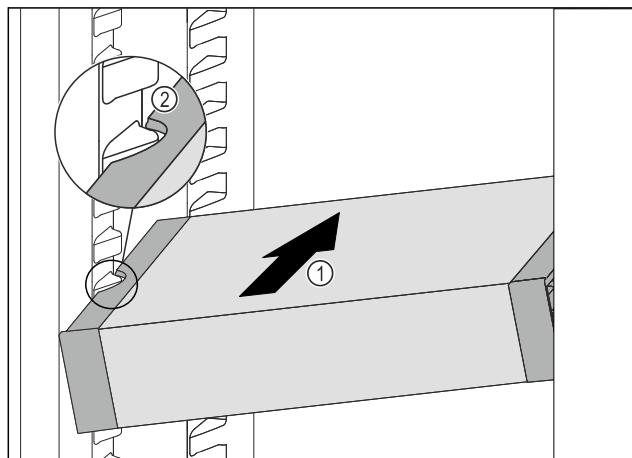

Fig. 95
- ▶ Insert the VarioSafe into the fridge section at an angle Fig. 95 (1) until the recesses in the side Fig. 95 (2) of the VarioSafe are at the level of the support rib in the fridge section.